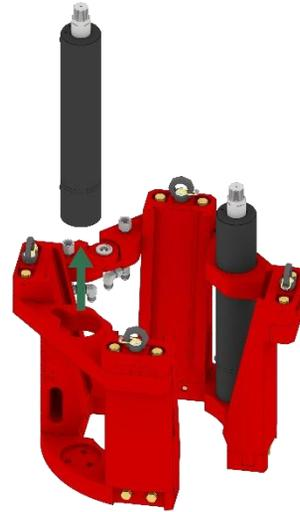

Fig. 27
Step 4: Remove the cylinder by lifting it out of the body plate assembly. See Figure 27.